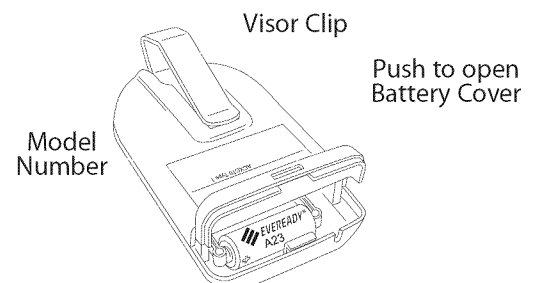

Figure 39 Remote Control Battery Replacement
- A** Push in on Battery Cover Latch at base of Remote Control (Figure 39):